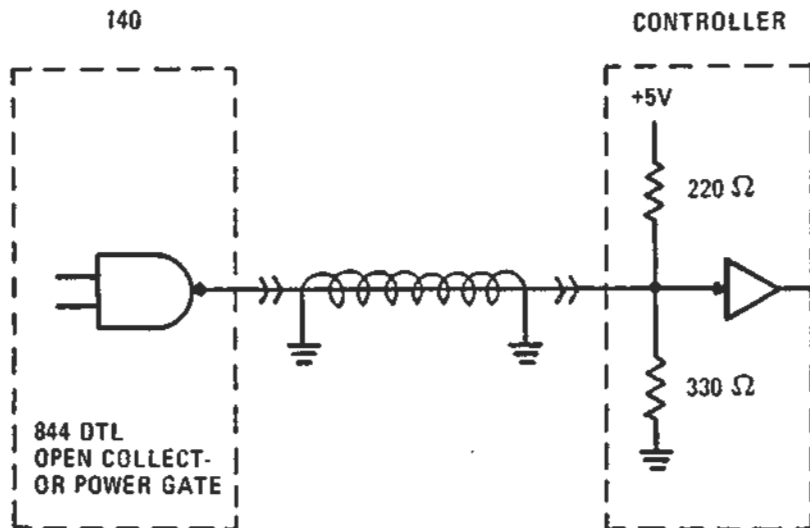

FIGURE 13. DRIVER SCHEMATIC
**Drivers-**Figure 13 depicts typical interface drivers. All drivers are standard DTL "844" open collector power gates. Termination resistors are required at the controller. All driver outputs are high when the unit is not selected. These drivers sink 36 milliamps in the low state.